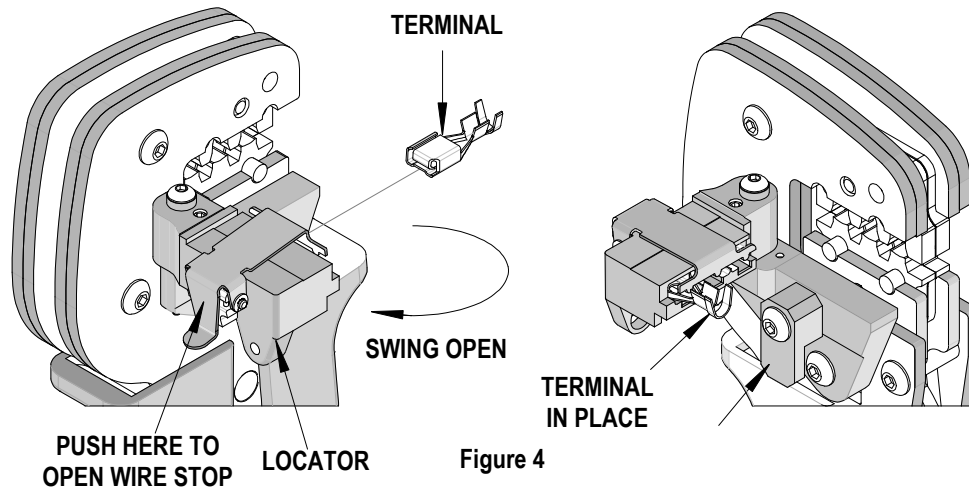

Figure 4
3. Swing the terminal locator away from the crimp tool shown in Figure 4.